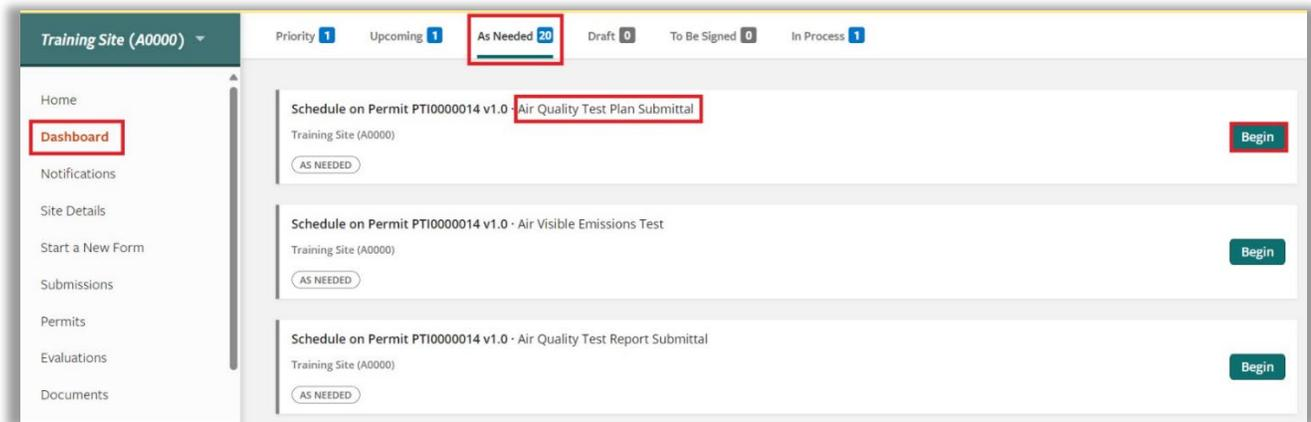

Figure 10-1 – Dashboard As Needed Category
- Step 2:** Click on the **As Needed** dashboard category See Figure 10-1